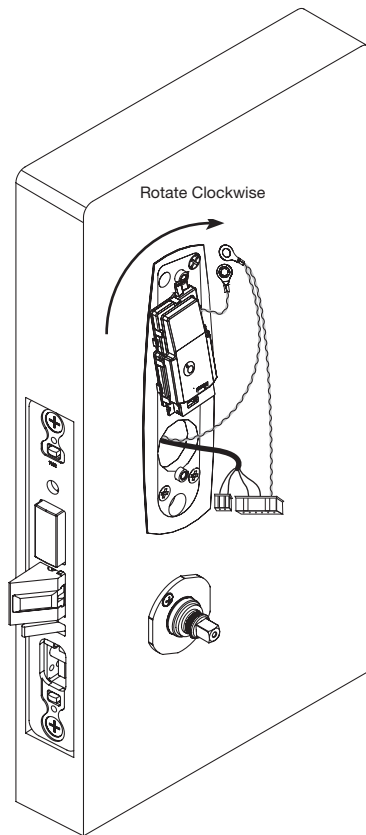

Fig. 11A
- Press piece against door while turning clockwise (Fig. 11A).